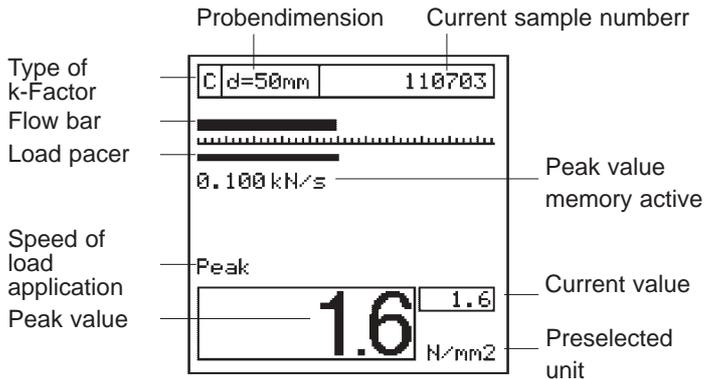

Fig. 3.5 Measuring display in the display (11) of the DYNAMETER
The **settings** of the last measurement are maintained even after the device is switched off. They are indicated when the device is switched on again (see Fig. 3.5). The **values** of the last measurement are **no longer** displayed.
*Press the "**END**" key to return to the measuring display (see Fig. 3.5).*
A sample number is assigned to every new measuring procedure; the number is shown in the measuring display (Fig. 3.5).